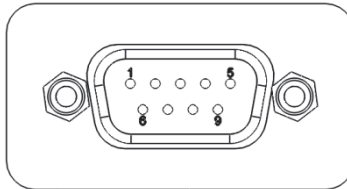

Figure 4 – DB9 (remote) Interface
2.4 DB9 (Remote) – The DB9 interface connector is a nine pin male waterproof connector that can be used to simplify remoting and integrating the speaker into portable or vehicular tactical communications systems by using a single cable for power and audio connections. Figure 4 and Table 4 describe the DB9 interface.